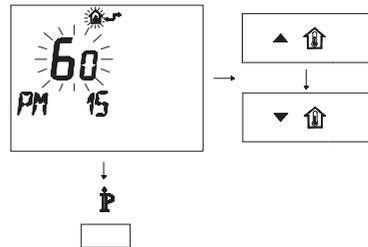

Fig. 7.14
- Modify the programmed SET by acting on buttons \blacktriangle \uparrow or ∇ \uparrow until a **setting of 60** is displayed, wait for the number programmed to flash (Fig. 7.14).